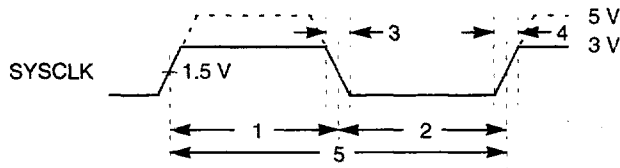

Figure 2
- ◆ Cold Reset Timing (Figure 2)